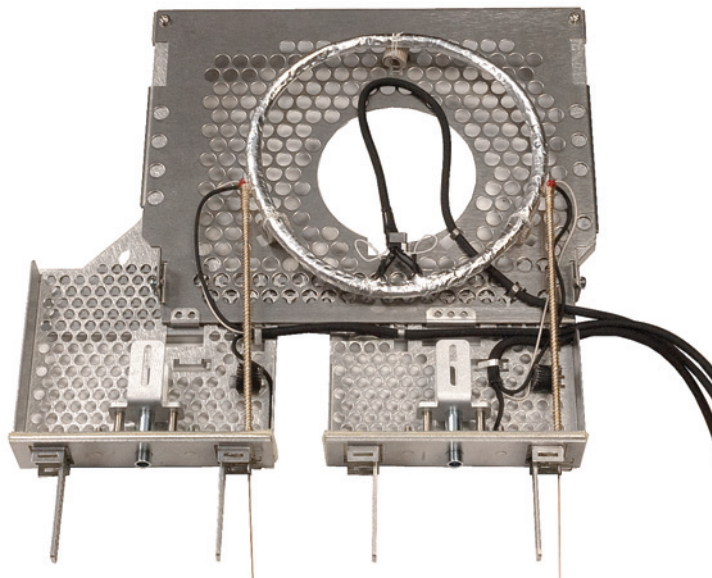

Figure 25. Routing the transfer line heater wires
- The free column leads should extend past the two posts where the column leads exit the module assembly. See **Figure 25**.
- 10 Route the transfer line wires inside the screw mounts for the column module cover. See **Figure 25**.